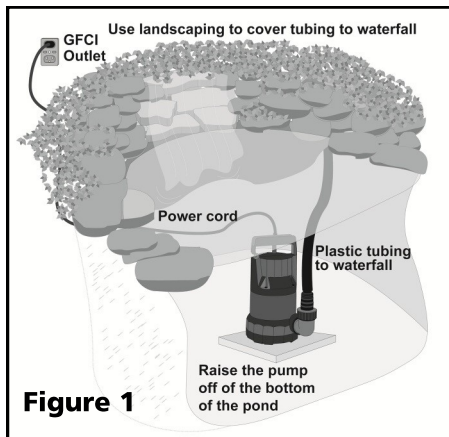

Figure 1
2. Connect outlet pipe or hose to the pump. See Figures 1 & 2 on page 4 for typical installations. This pump will accommodate 1-1/2" or 1" pipe as well as 1-1/4" or 1" hose. Choose the best size hose or pipe for your application.